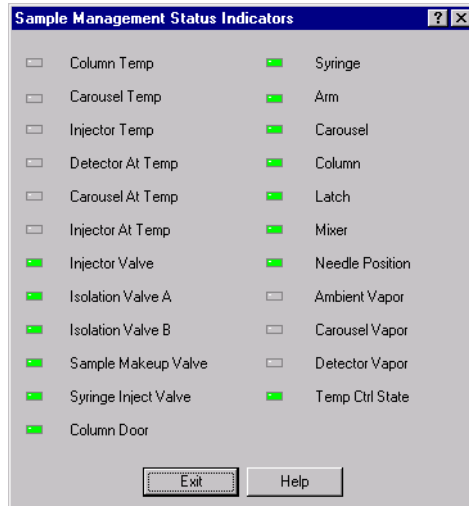

Figure 5-3 Sample Management Status Indicators Dialog Box
- Sample Management Status Indicators (Figure 5-3).